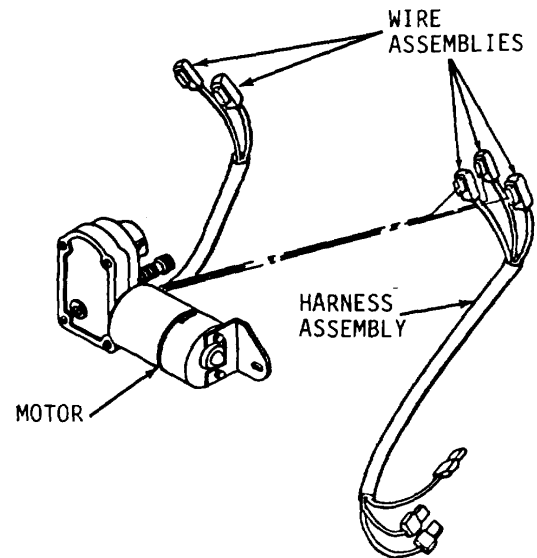

Figure 4-95.
1. Disconnect five wire assemblies from motor (Figure 4-95).
1. Position harness assembly (Figure 4-95).